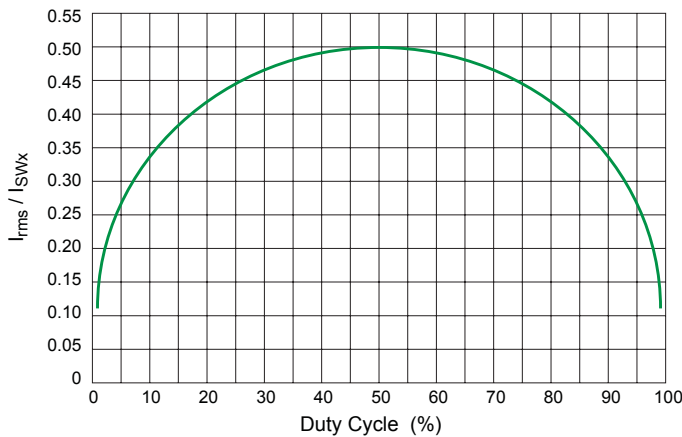

Figure 23. Input capacitor ripple versus duty cycle
Figure 23 shows the normalized input capacitor rms current versus duty cycle. To use this graph, simply find the operational duty cycle (D) on the x-axis and determine the input/output current multiplier on the y-axis. For example, at a 20% duty cycle, the input/output current multiplier is 0.400. Therefore, if the regulator is delivering 2.0 A of steady-state load current, the input capacitor(s) must support 0.400×2.0 A or 0.8 A_{rms}.